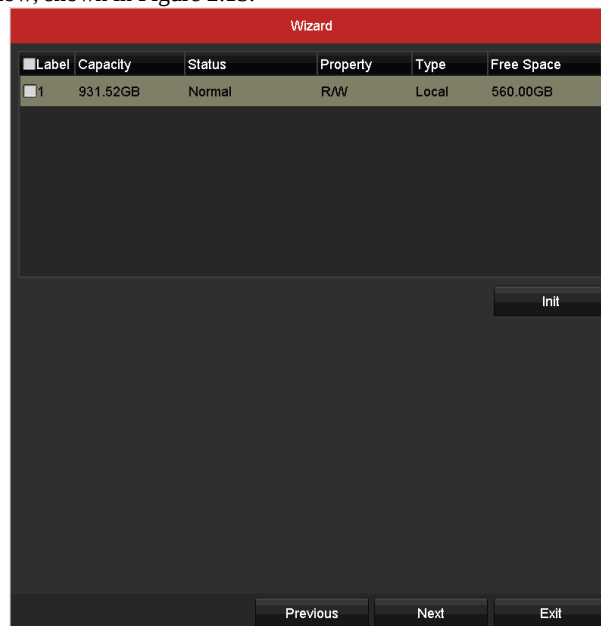

Figure 2.13 HDD Management
7. Click **Next** button after configuring the advanced network parameters, which will take you to the **HDD Management** window, shown in Figure 2.13.